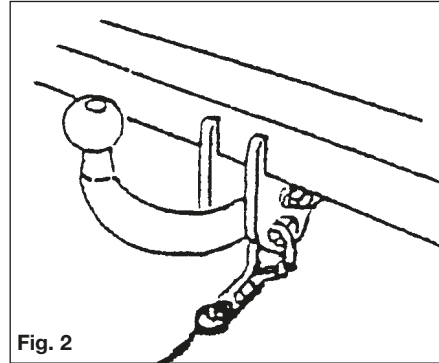

Fig. 2
Warning: If the connector is not fully rotated anti-clockwise prior to removing it from the socket it is possible that the inner ring will become 'floating' and may result in a condition where the protrusion will be incorrectly aligned (see fig 2 & 3).
- Do not clip directly onto the designated point (figure 2) since the clip is not designed for use in this way.